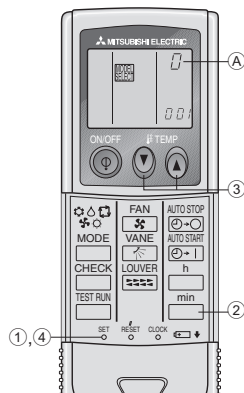

Fig. 6-9
3) IR wireless remote controller pair number setting operation (Fig. 6-9)
- ① Press the SET button with something sharp at the end. Start this operation from the status of IR wireless remote controller display turned off. blinks and Model No. is lighted.
- ② Press the button twice continuously. Pair No. "0" blinks.
- ③ Press the temp button to set the pair number you want to set.
- ④ Press the SET button with something sharp at the end. Set pair number is lighted for three seconds then turned off.
④ Pair No. of IR wireless remote controller	Indoor PC board